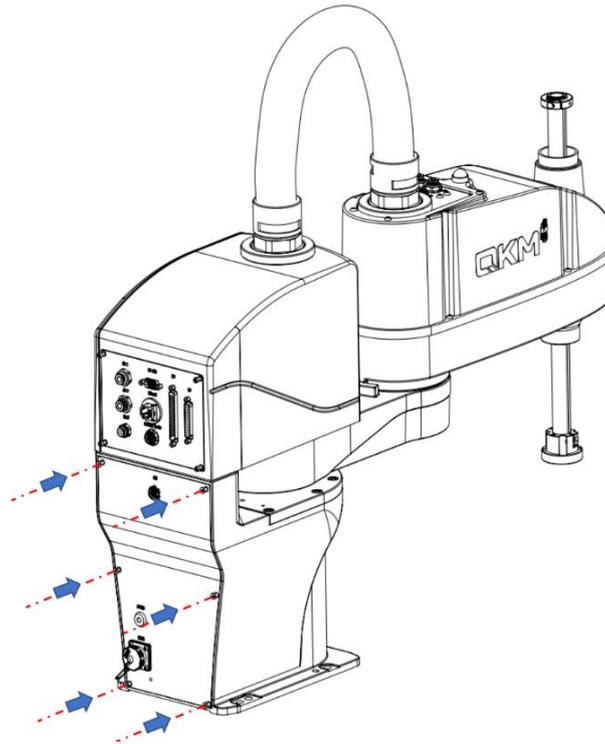

Figure 4-13 Installation of base interface panel
Step 2 Hold the base interface panel by aligning with the screw holes on the robot body, and then use 2.5 mm Allen wrench to tighten the fastening screws on the base interface panel of the robot (with a tightening torque of 0.5 N·m), as shown in Figure 4-13.